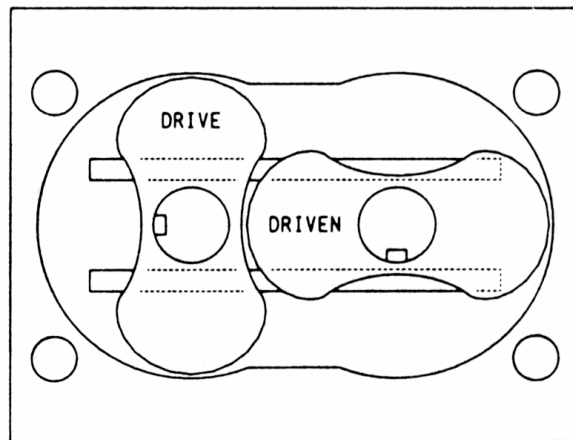

Figure 3. Positioning of Rotors & Housing for Assembly
4. Place non-drive end plate on 6"x 6" blocks with the solid side up. The end plate must be blocked up so rotor shafts will not touch floor when they are installed. Grease and install O-ring (176) in end plate groove. Install housing (3) making sure dowel pins are in place. Do not bolt in place at this time.
5. Lay two pieces of steel approximately 2" x 2" x 1/8" thick at the bottom of the housing as shown in Figure 3 with the end (long shafts) up. The rotor lobes will be above the end of the housing which is necessary when assembling this end.
6. Grease and install O-ring (176) in groove of gear end plate. Use sufficient grease to hold it into place when the end plate is turned over.